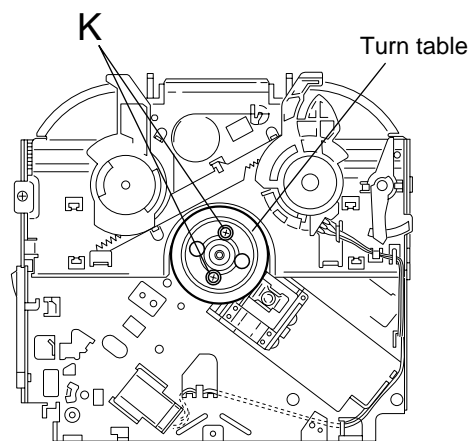

Fig.37
■ Removing the turn table / spindle motor (See Fig.37 and 38)